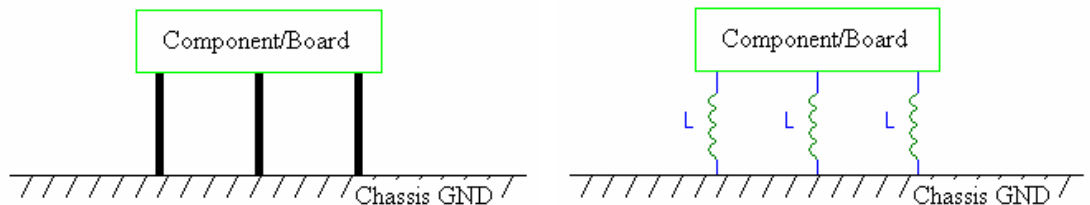

**Figure 19.** X2Y® should be located just before or after the exit point of the motor housing.
- v. The brush card or PCB should be located at the inside or just outside of the housing/end cap where the power leads exit. This placement ensures that the X2Y® component will be the last place the noise will pass before or just after leaving the motor housing (Figure 19).